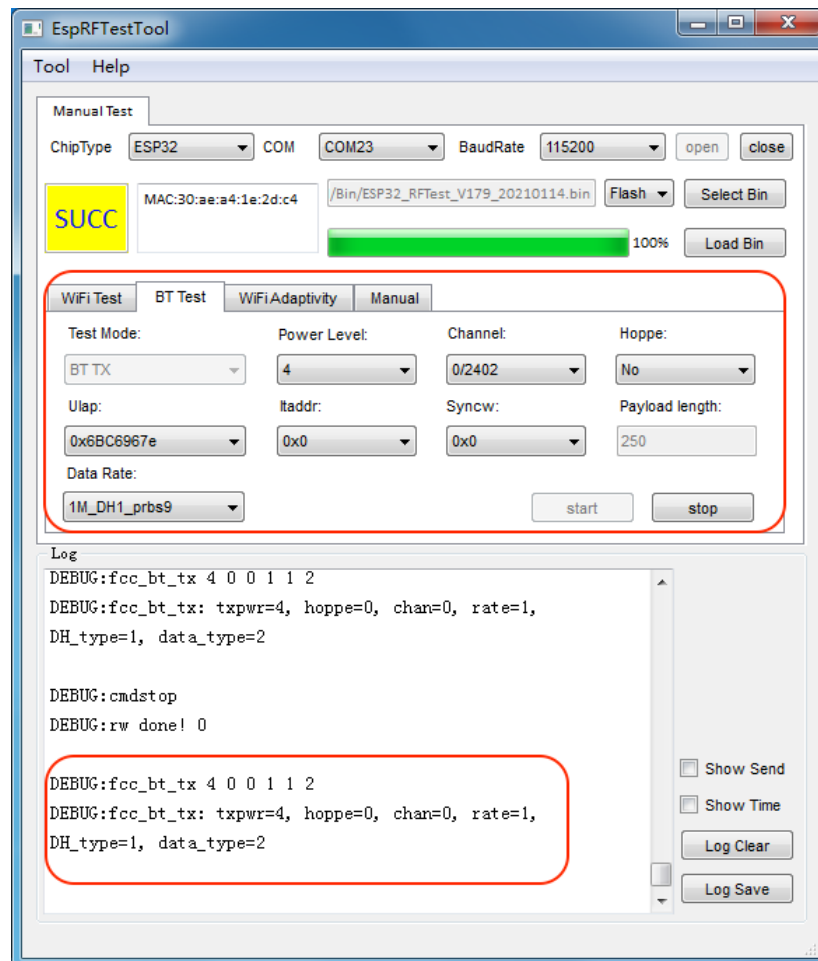

Figure 2-4. Bluetooth Test Interface
- Switch to the **BT Test** tab and configure the parameters: In general, set **Power Level** to 4 and other parameters according to the actual needs. Figure 2-4 shows the ESP32 Bluetooth Fixed Frequency Test interface.